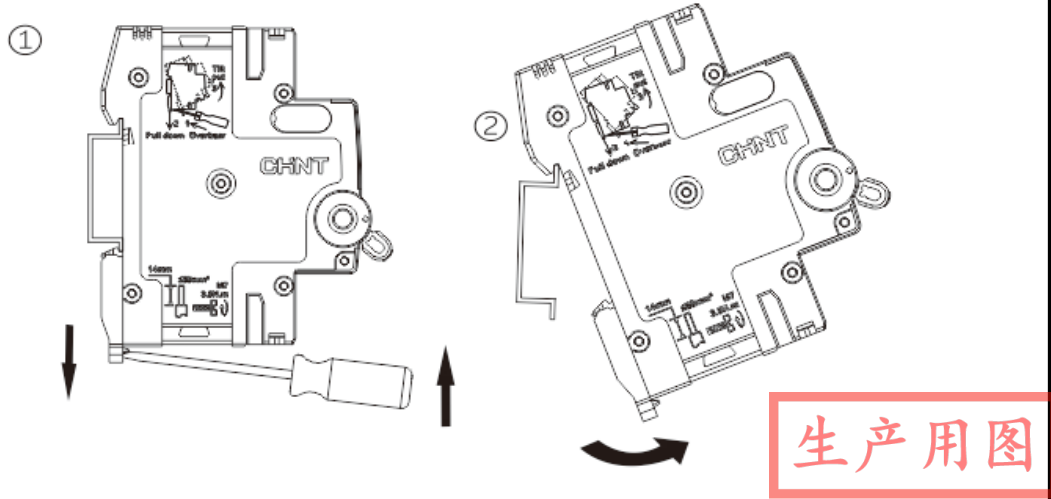

Figure 4 NB8-125 Disassembly Schematic
5.3 Disassemble as shown in Figure 4 below.